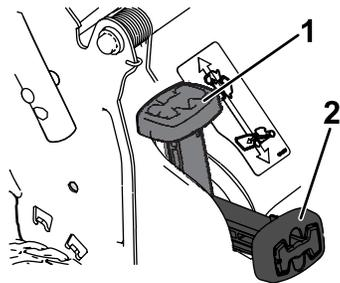

Figure 12
- **To bag the grass and leaf clippings**, press the button on the bag-on-demand lever and move the lever forward until the button on the lever pops up (Figure 12).